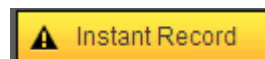

Figure 5-7
- Section 4: Instant record button. Click it, the button becomes yellow and system begins manual record. See Figure 5-7. Click it again, system restores previous record mode..